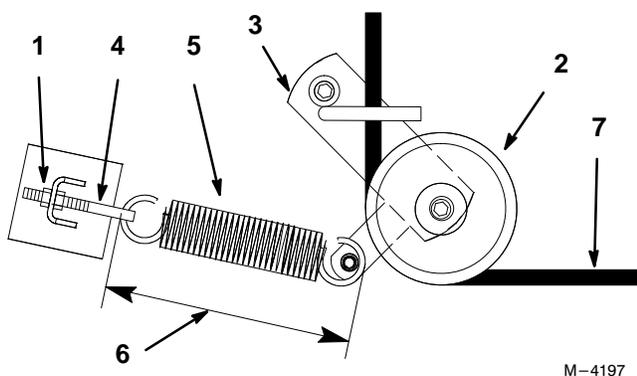

Figure 27
3. Loosen outer nut on spring eye bolt (Fig. 27).
5. Remove spring loaded idler pulley (Fig. 27).
6. Route new belt through idler arm (Fig. 27).
8. Retighten outer nut on spring eye bolt (Fig. 27).
Note: Check spring length. The spring should measure $9.375'' \pm .125''$ (238 mm \pm 3 mm) when installed. Adjust if it does not (Fig. 27).